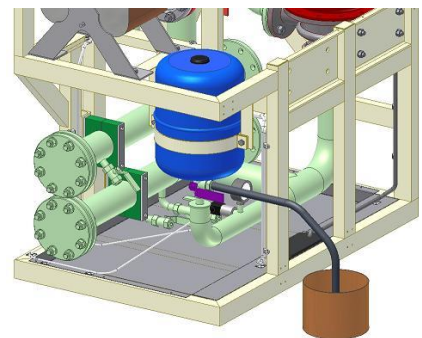

Figure 6.2-7
3. Turn the lever (marked violet in Figure 6.2-7) on valve V160 90° so that it points towards you. This will close off the primary circuit and therefore only the liquid in the expansion vessel will come out. (There is line mark in the end of the stem, where you can also ensure the right position of the 3-way valve. This mark shows the open flow direction.)